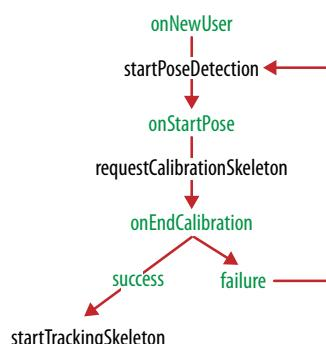

Figure 4-1. Flow of OpenNI actions and callbacks needed to initiate joint tracking.
Before we get into the nitty-gritty of code, I want to give you an overall picture of how calibration works (Figure 4-1). The diagram shows the flow of callbacks triggered by OpenNI and the actions that we have to take within them to continue the calibration process. I'll briefly explain the complete picture and then we'll dive into the actual code within our sketch to see how the whole system works in practice.
- ③ If calibration failed, `succeeded` will be false, and we'll go into the `else` branch of the `if` statement. What we do there is restart the calibration process. We call `kinect.startPoseDetection("Psi", userId)` to tell OpenNI to restart the process of checking to see if the user is in the calibration pose. If you look back at Figure 4-1, you can see that, in the case of failure, the calibration process becomes a loop. It jumps back to the pose detection phase and then continues again. When the user assumes the calibration pose (or continues to hold it), our `onStartPose` function will get called again, and if we keep the process going, eventually `onEndCalibration` will be called as well. However, if we don't instruct the user to move around or otherwise attempt to correct the problem, it is unlikely that the calibration process will achieve a different result. For that reason, it is once again a good idea to give users some visual feedback or instructions to make sure that they are fully visible within the depth image and standing still so that the calibration process has a chance to succeed.